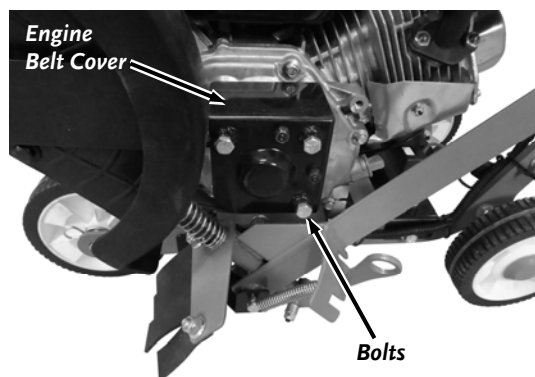

Figure 23
- Rotate the Spindle Adjustment Lever back to gain access to the Engine Belt Cover (**Figure 23**).